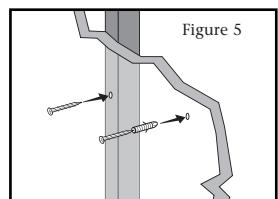

Figure 5
8. It is best if at least one screw hits a wall stud. If there is no stud behind the pilot-hole location, install wall anchors (not included) to secure the bracket screws. [Figure 5] Follow the wall anchor manufacturer's directions. Each wall anchor should be rated to hold at least one half of the product net weight [see specifications on page 1].